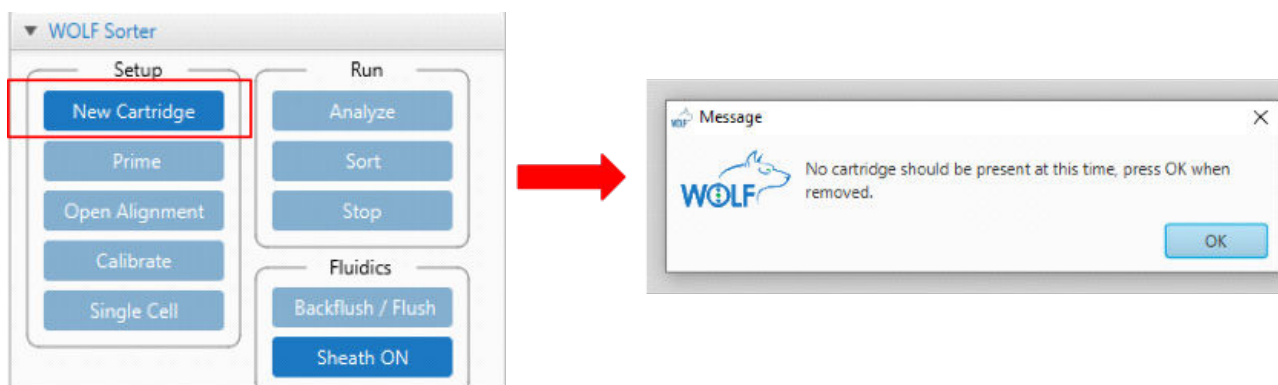

Figure 10. Starting with a new cartridge.
1. Click “New Cartridge” in WOLFViewer. This triggers a pop-up prompting the user to remove a cartridge if present. The motors will move to prepare the system to receive a cartridge (Fig. 10).